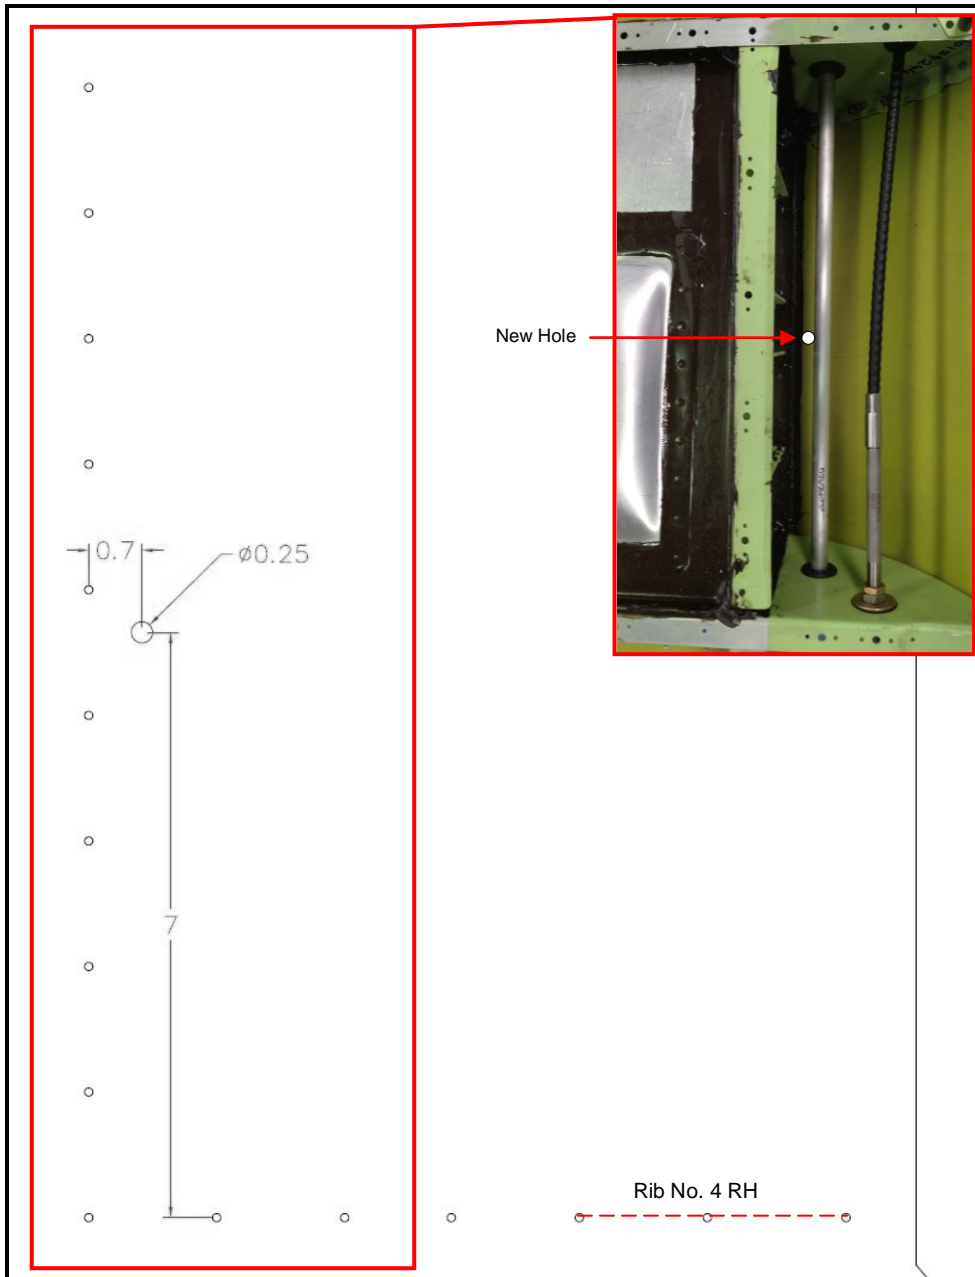

Figure 7: Hole 5 (Belly skin shown from above for clarity, DO NOT REMOVE FLOOR SKIN)
12. Drill ¼ in. hole through bottom skin located outboard of sump tank, between no. 3 RH rib (GA8-532023-253) and no. 4 RH rib assembly (GA8-532013-071), Figure 7.